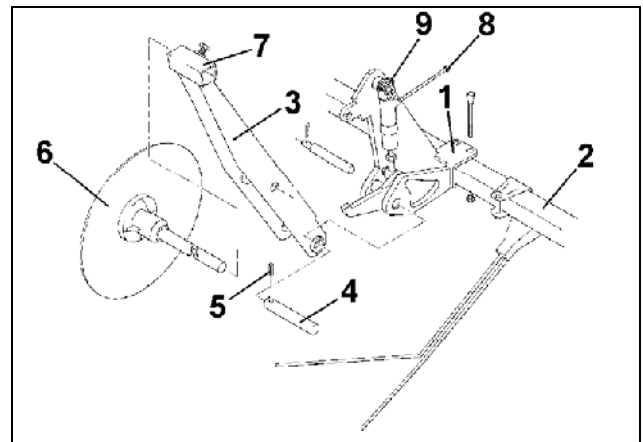

Fig. 33
- Attach two fixing brackets (Fig. 33/1) to the extra coverage following harrow
- Mount the marker disc carrier arm (Fig. 33/3) by means of the pins (Fig. 33/4) and expansion pin (Fig. 33/5) and secure.
- Insert the marker discs (Fig. 33/6) into the marker disc carriers (Fig. 33/3) and clamp by using hex. bolts (Fig. 33/7).
- Connect the hydraulic hoses (Fig. 33/8) to both hydraulic rams (Fig. 33/9) and connect together with the hydraulic ram for the tramline shutter inside the distributor head with the electr.-hydraulic valve.
Tramlining control units with 2-bout switching rhythm or 6-plus switching rhythm are equipped in such a way that the track width of the husbandry tractor is traced when once driving up and down in the field. Therefore only fit one of the two marker discs (Fig. 33/1) when using these switching rhythms.